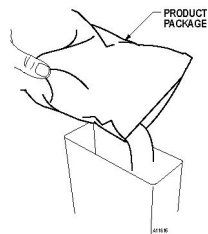

Figure 5f. Fill Canister
8. Slowly pour the product into the canister. **Figure 5f**.